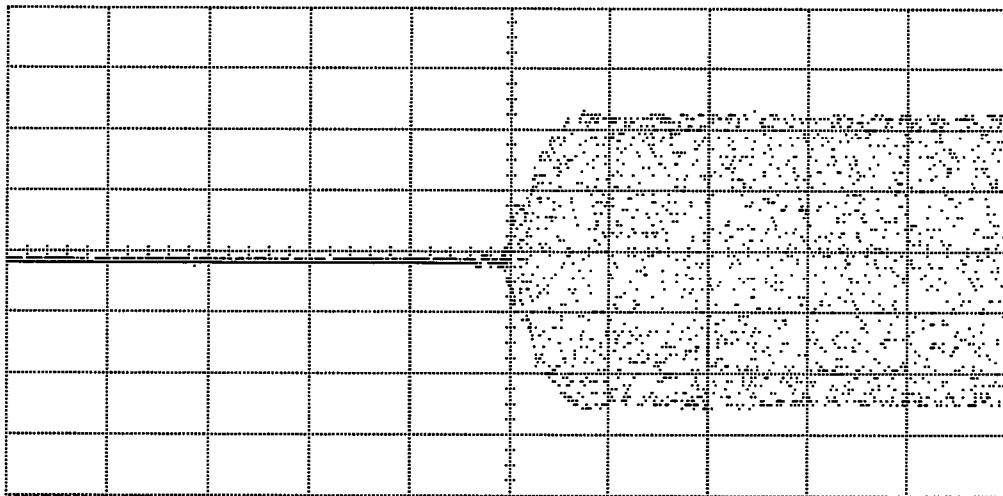

Figure 3-15. Pulse Rise Time Measurement
1. Adjust the synthesizer RF output level so that the upper half of the envelope spans 2.5 vertical graticules as in Figure 3-15.
2. Adjust the oscilloscope's horizontal **DELAY** and vertical **OFFSET** functions in order to position the rising edge of the pulsed RF so that the 10% and 90% points cross horizontal graticules. Refer to Figure 3-15.